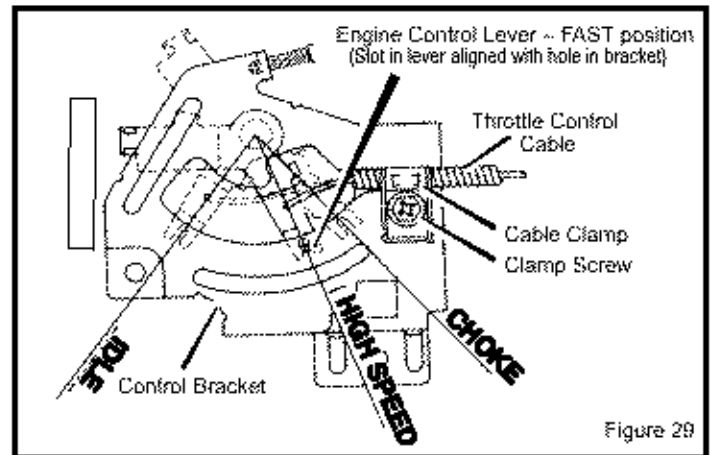

Figure 29
2. Loosen the **clamp screw** so that the **throttle control cable** can move in the **cable clamp** (Figure 29). Do not remove the **cable clamp** or disconnect the **throttle control cable** from the **engine control lever**.